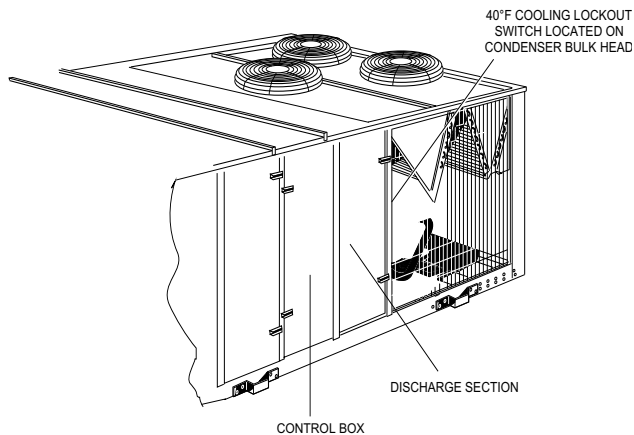

FIGURE 1 - COOLING LOCKOUT SWITCH LOCATION
1. Mount the 0°F Cooling lockout switch (CLO2) next to the 40°F Cooling lockout switch (CLO1) on the condenser bulkhead panel. (See Figure 1)